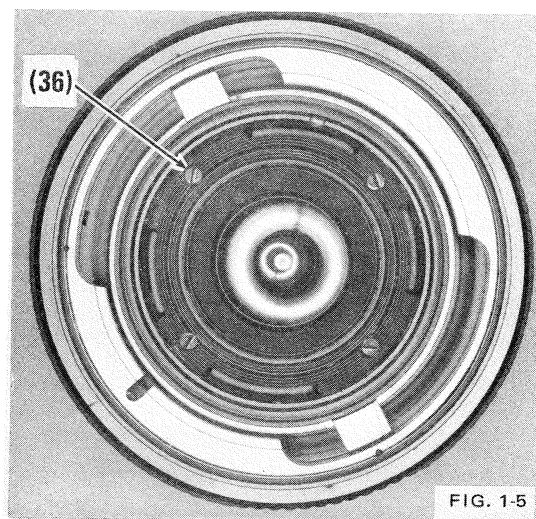

FIG. 1-5
Second lens group is retained in its housing by four screws (36). Fig. 1-5.